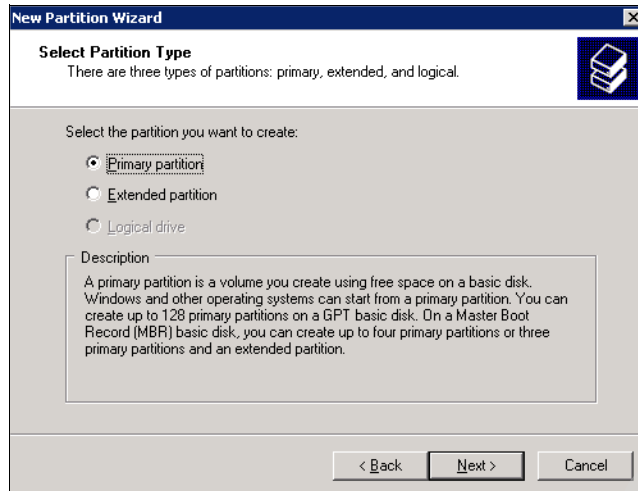

Figure 25-19 Select Partition you want to create
8. In Figure 25-19 on page 623, mark the partition type you want to create and click **Next**.